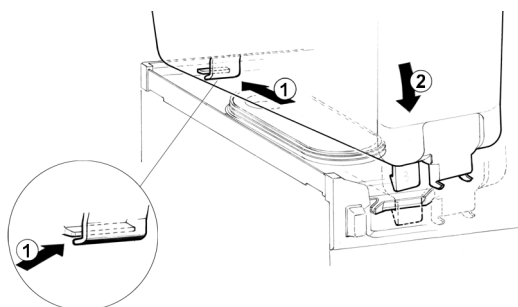

figure 8
- 5 Place bowl on the unit. Wet the gasket for ease of insertion. Please take care that the hook on the backside of the bowl be inserted properly in its seat on the upper drip plate. (see figure 8).